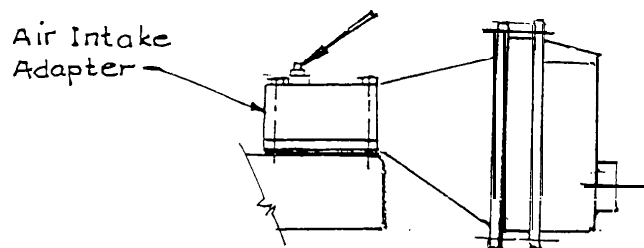

Figure 10. Intake Vacuum Port Location
18. ( ) Connect a manometer or magnehelic (vacuum gauge) to the intake vacuum port shown in Figure 10. Run the engine at full throttle with no load, The intake vacuum does not exceed 30 inches of water column.